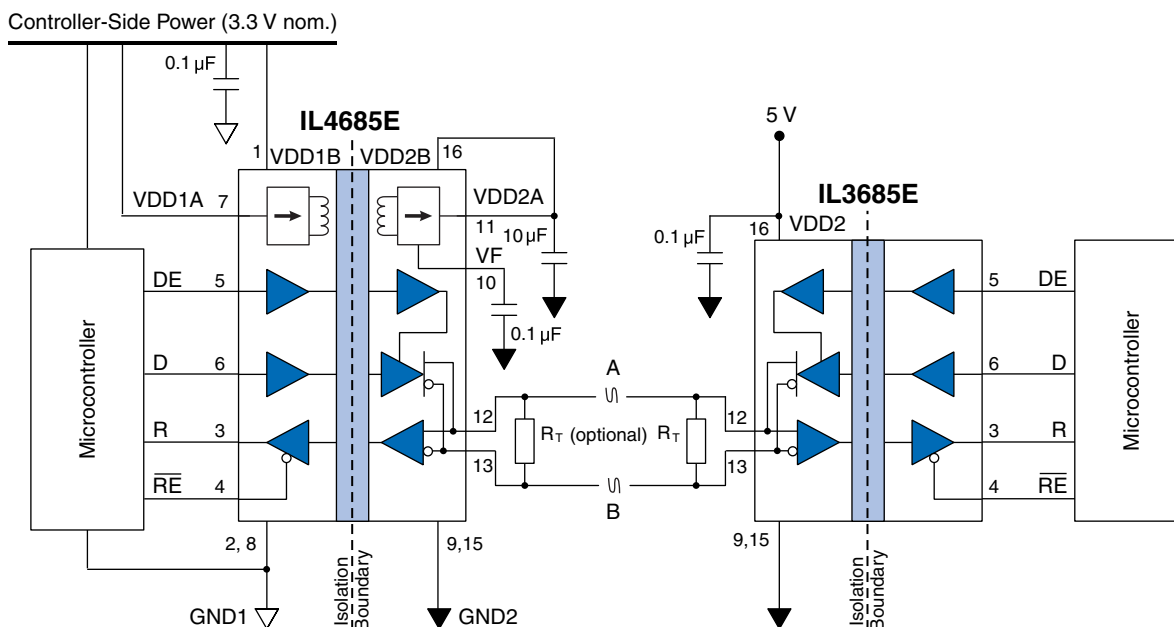

Figure 21. A typical IL4685E node driving a 5-volt-powered node.
- Added RS-422 application diagram (Figure 21).